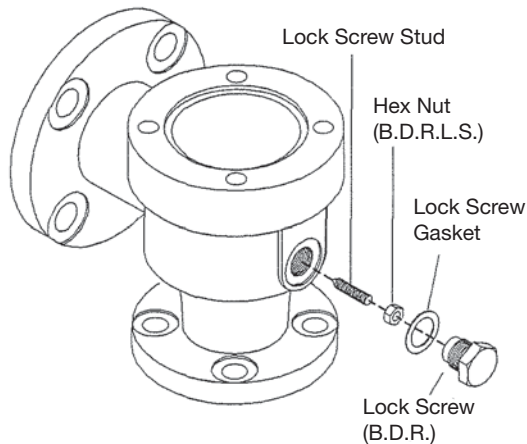

Figure 6.3
4. Remove the **Blow Down Ring Lock Screw** assembly [12,13, 25] and **Lock Screw Gasket** [24]. Record the position of the **Blow Down Ring** [7] with respect to the **Disc Holder** [6] by counting the number of notches required to raise the ring until it just touches the **Disc Holder** [6]. This information will be needed again when reassembling the valve. **(Figure 6.3)**